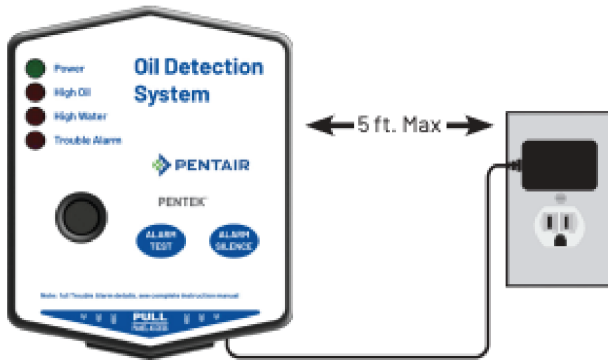

Figure 9
- Plug the alarm panel power supply into a standard wall outlet or receptacle (120VAC, 50/60 Hz), and then plug the quick connect of the power supply cord into the incoming power receptacle of the alarm panel. The green power LED should illuminate (solid) when powered (Fig. 9).